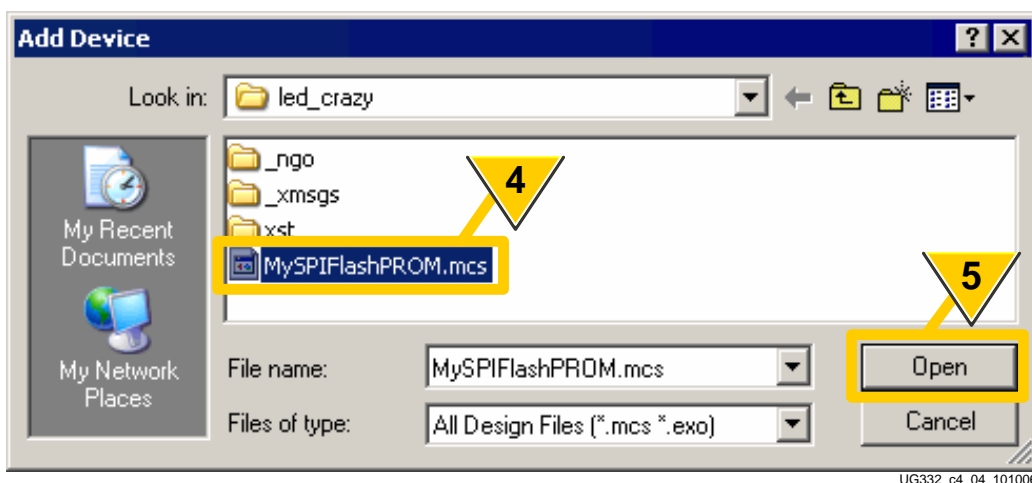

Figure 12-7: Select a Previously Formatted PROM File
4. Select a previously formatted PROM file, as shown in Figure 12-7.